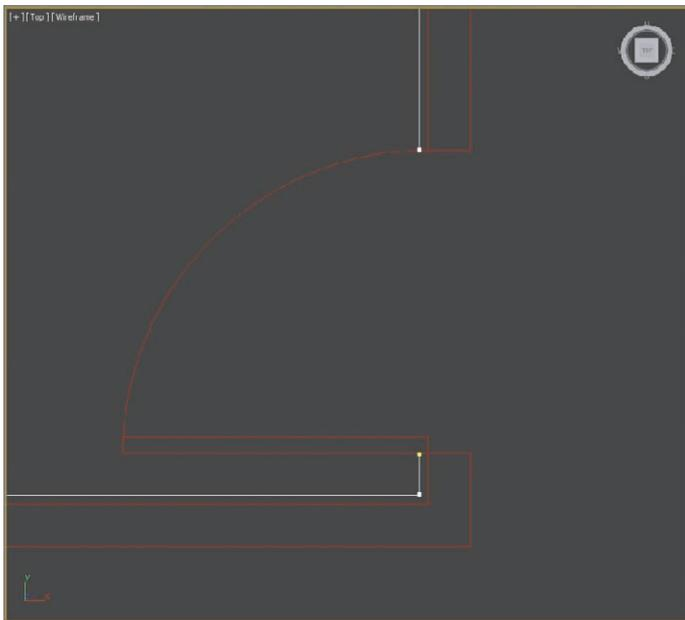

FIGURE 3.25 Use Refine to add two new vertices on either side of the door; then delete the segment.
30. Switch to Segment mode; select the segment in between the two new vertices and delete it, as shown in Figure 3.25.